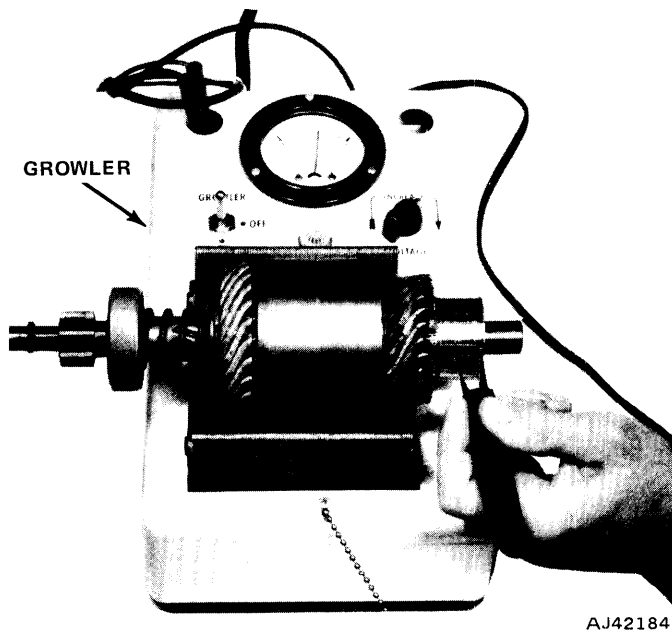

Fig. 3-44 Armature Balance Test
(1) Place armature in growler jaws and turn power switch to GROWLER position (fig. 3-44).
(2) Place contact fingers of meter test cable across adjacent commutator bars at side of commutator.
(3) Adjust voltage control until the needle is at highest reading on scale.